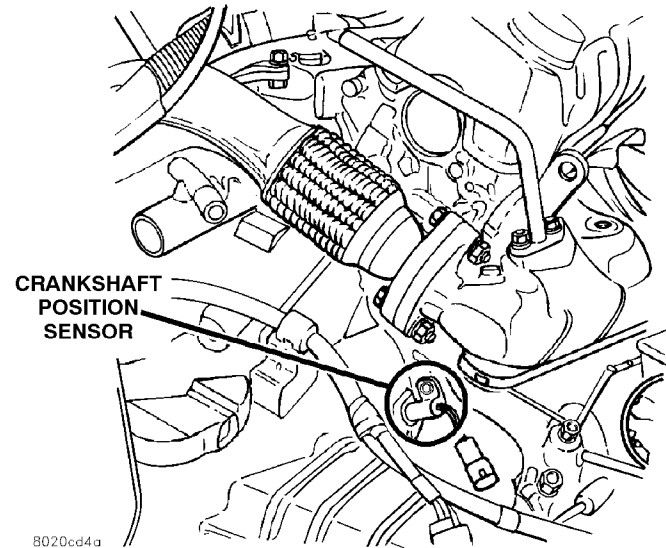

Fig. 4 Crankshaft Position Sensor Connector
- (1) Raise and support vehicle.
- (2) Disconnect crankshaft position sensor electrical connector from the wiring harness connector (Fig. 4).
- (3) Remove crankshaft position sensor retaining bolt.
- (4) Pull crankshaft position sensor straight up out of the transaxle housing.